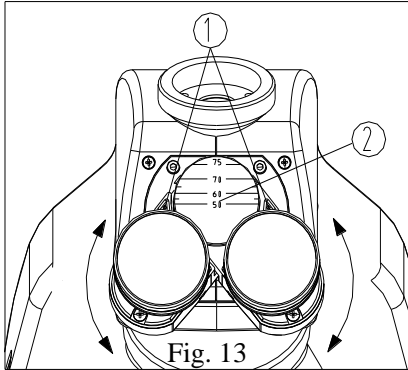

Fig. 13
“①” on the eyepiece base points to the scale ② of interpupillary indication, means the value of interpupillary distance (see Fig. 13).